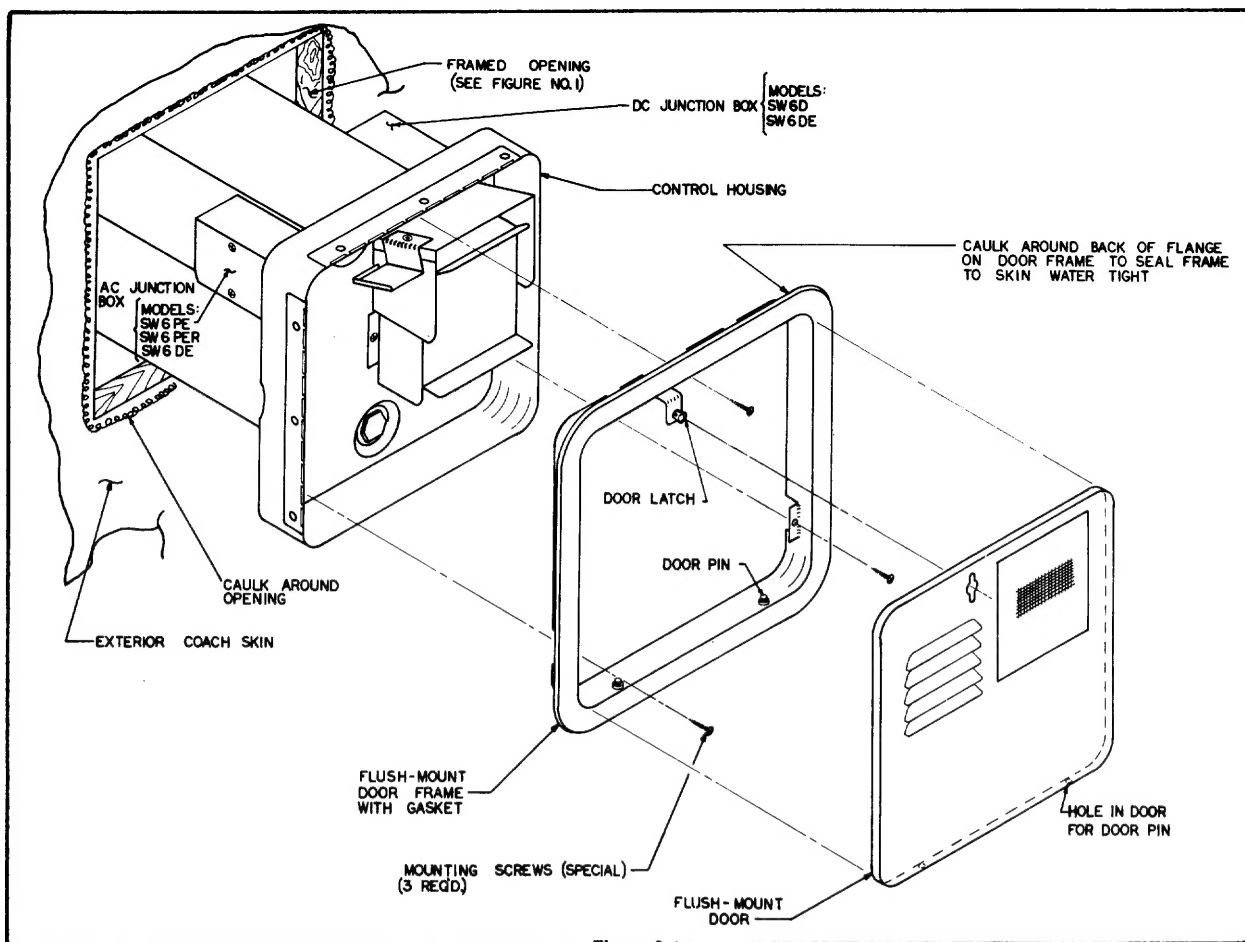
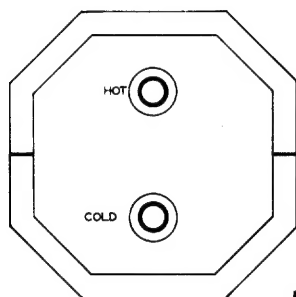
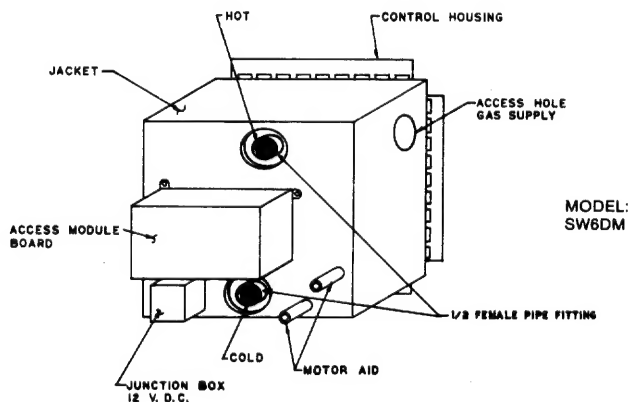

Figure 2
Figure 5
Figure 6
I. INSTALLATION USING FLUSH MOUNT FRAME AND DOOR (See Figure 2 for illustration)
D. Insert door frame into control housing and secure with three (3) No. 8 x 3 1/4 screws provided. NOTE: Three (3) No. 8 x 3/8 screws installed at factory to seal extruded holes must first be removed.
A. Water connections are made at the rear of the water heater. Refer to Figure 5 for all models except SW6DM. For model SW6DM, refer to Figure 6. Connect the hot and cold water lines to the 1/2" female pipe fitting provided on rear of tank. These fittings are marked "HOT" and "COLD". NOTE: Inside each fitting is a plastic fill tube. Its purpose is to enhance water circulation. **DO NOT REMOVE PLASTIC FILL TUBE.**
B. Refer to Figure 2 for location of D.C. junction box on models SW6D and SW6DE. Refer to Figure 6 for location of D.C. junction box on model SW6DM.
B. Refer to Figure 2 for location of A.C. junction box.